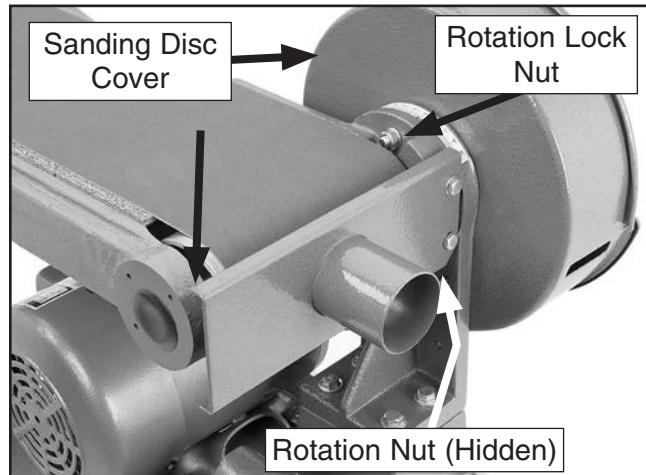

Figure 55. Table tilted to horizontal position.
2. Loosen the sanding frame rotation lock nuts (behind the sanding disc cover), rotate the frame to the horizontal position, as shown in **Figure 55**, then tighten the rotation lock nuts.